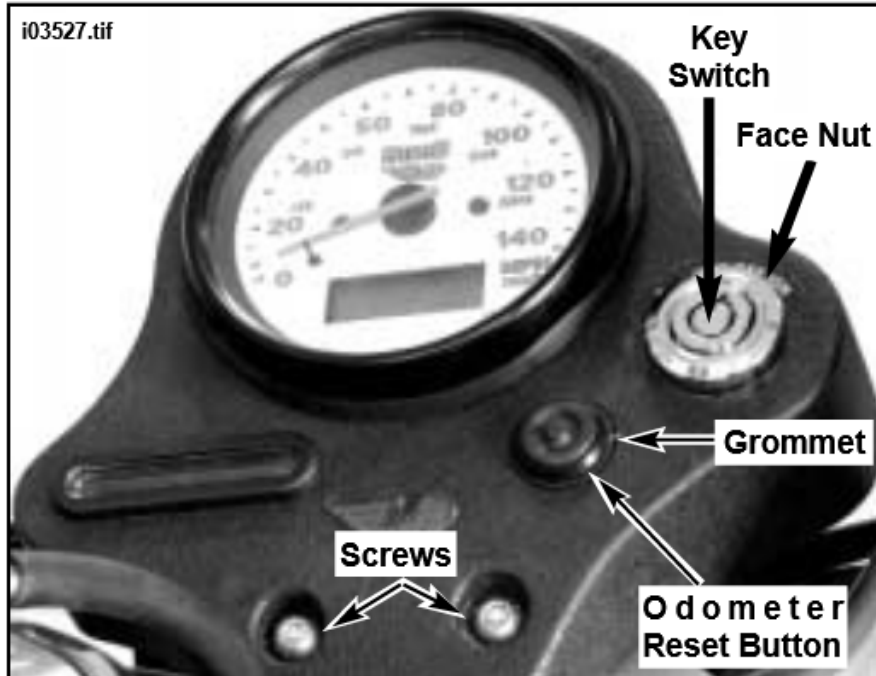
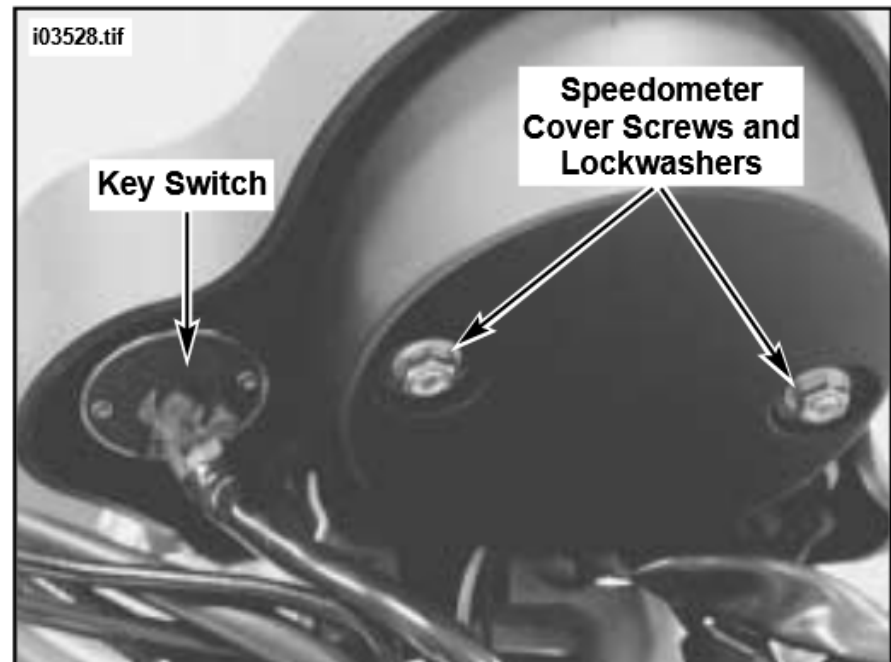

Figure 3. Stock Dash Panel (Front)
Figure 4. Stock Dash Panel (Back)
- See Figure 3. Pry grommet surrounding odometer reset button from front of dash panel. See Figures 4 and 5. Back out odometer reset button from back side of dash panel. Save grommet and button for re-installation.
- See Figures 3 and 5. Remove face nut from ignition key switch.
- See Figures 4 and 5. Back out key switch from back side of dash panel.
- See Figures 4 and 5. Remove the two nuts and lockwashers securing speedometer to speedometer cover. Discard nuts and lockwashers.
- See Figure 3. Remove two screws securing dash panel to handlebar clamp and remove panel. Discard screws.